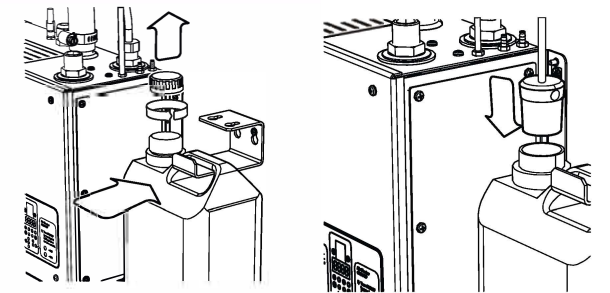

Fig 18a
2. Place the soap container onto the soap bracket to the right of the control module, ensuring the cap is outermost (See figure 18a).